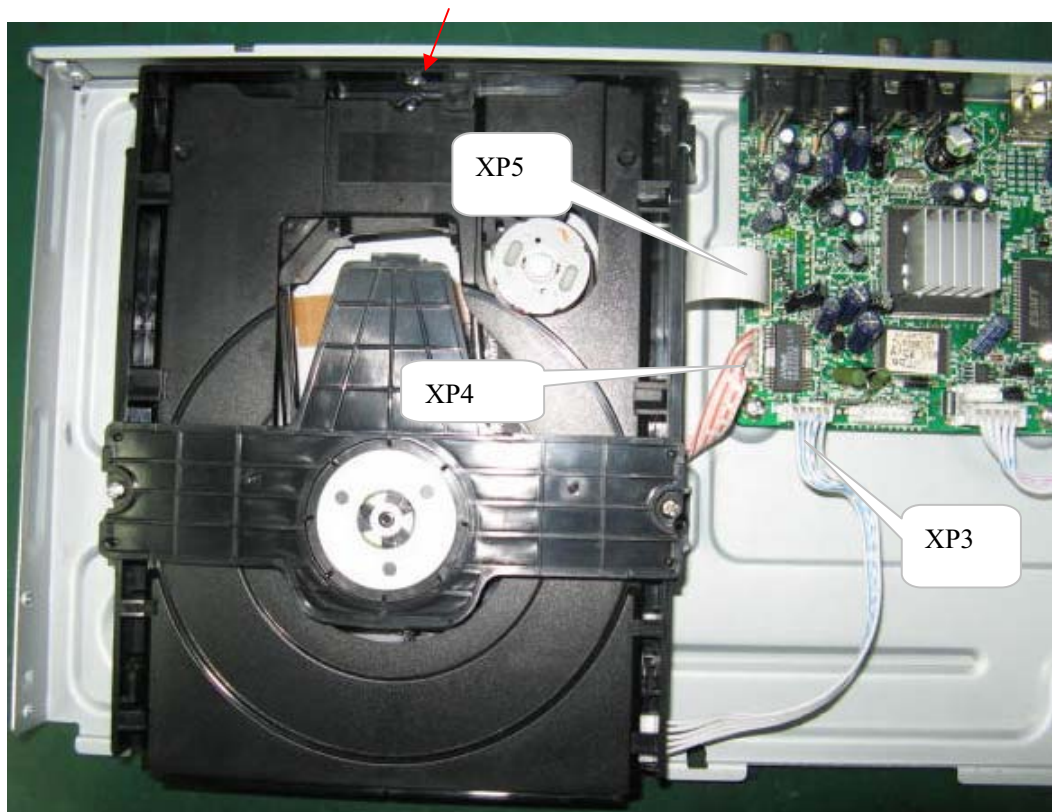

Figure 7
Step5: Dismantling Loader, disconnect the 3 connectors (XP3, XP4, XP5) aiming in the below figure, and remove 1 screw that connects the loader and the bottom cabinet. (Figure 7)